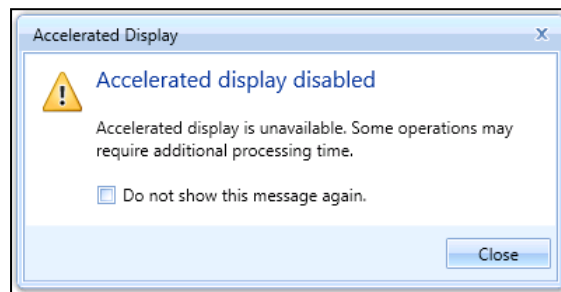

Figure 1. Accelerated Display Warning
2. If accelerated display is unavailable on the host platform where AEDT is launched, the following warning message will be displayed (Figure 1).